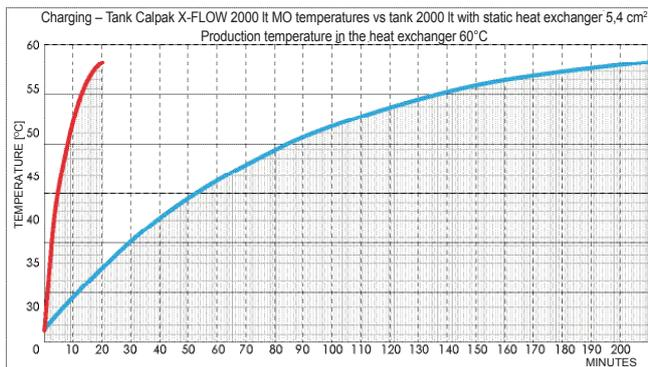

Figure 4 — Calpak X-FLOW — Tank with static heat exchanger 5,4m²
- Very fast charging of the ultratank compared to conventional tanks (figure 4)